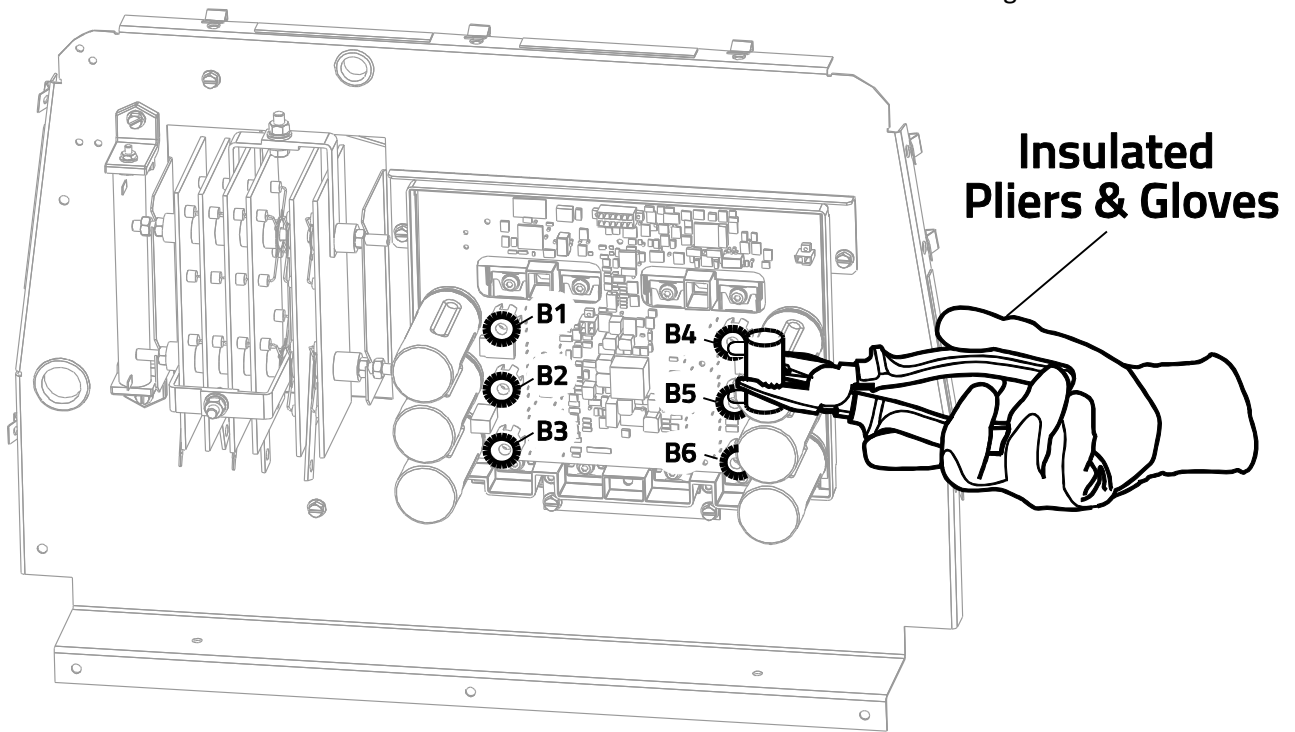

Figure F.2
3. Locate the chopper module and capacitor assembly on the inner machine baffle. **SEE FIGURE F.2** and the Wiring Diagram. **NEVER USE A SHORTING STRAP TO DISCHARGE CAPACITORS.** If the Lincoln recommended resistor, or an equivalent resistor is used, the capacitors can be discharged by holding the resistor with insulated pliers and using the resistor terminals to bridge Chopper Module terminals B1 to B2, and B4 to B5. **DO NOT TOUCH THE TERMINALS OR METAL PARTS OF THE PLIERS WITH YOUR BARE HANDS.** Hold the resistor in place for about 10 seconds. If another type of resistor is used, jumper leads may need to be attached to the resistor. The leads can then be used to connect terminals B1 to B2, and B4 to B5.